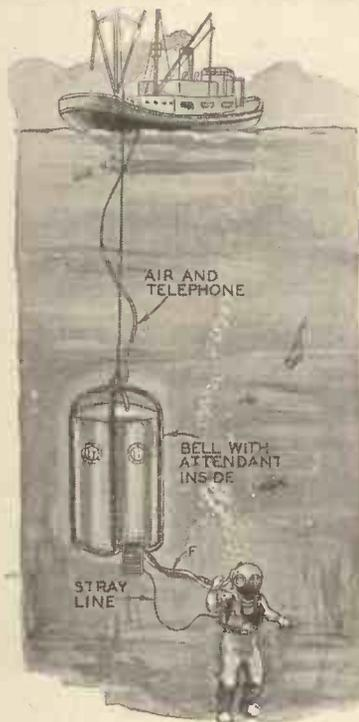

Fig. 2.—Showing how work is carried on by the diver from a diving bell.
A glance at Fig. 2 will make clear the working of a deep-sea diving bell. The bell "B" is a well-made cylinder large enough to take a diver and attendant. It is equipped with telephone, pressure gauges, and a flask of oxygen. It is lowered to a position near the wreck and the diver leaves by a manhole in the bottom. The air pressure in the bell excludes the water. This permits the diver to wear the ordinary suit. F is the diver's air pipe and breast rope lashed together. As soon as the diver is ready he returns to the bell, the manhole is closed and the bell speedily hoisted up and placed on deck, where it is "blown off" in a similar fashion to the "decompression chamber" described before. The advantages of the bell are: (1) It allows the diver free movement, unhampered by a great length of air pipe and breast rope. (2) It eliminates the tedious stages of stops necessary when working in compressed air. These stops being done comfortably on deck, without the risk when being transferred to a "Decompression Chamber," as previously mentioned. (3) Divers can be brought up instantly if rough weather breaks out. This could not be done, unless of course, a Decompression Chamber was available. (4) If two or more bells are in use the divers can be changed quickly and save much time.